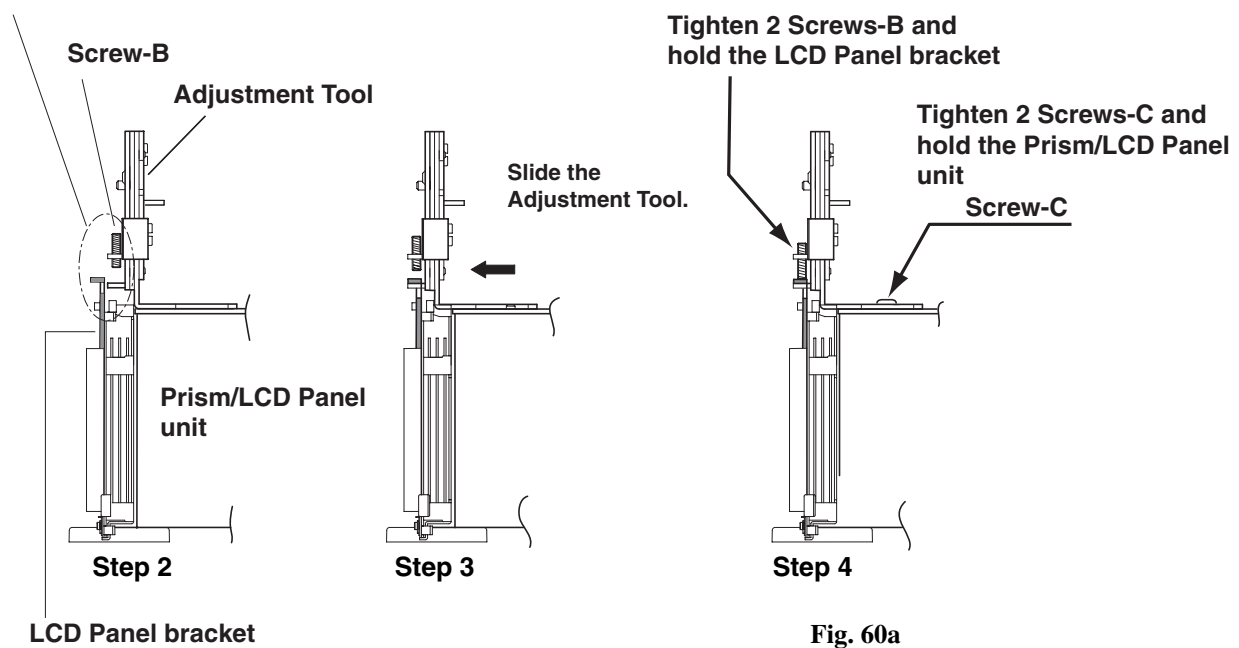

Fig. 60a
2. Fully loosen 2screws-B on the Adjustment Tool. See Fig.60a, 60b.
5. Tighten screws-B and hold the LCD Panel Bracket. See Fig.60a, 60b.